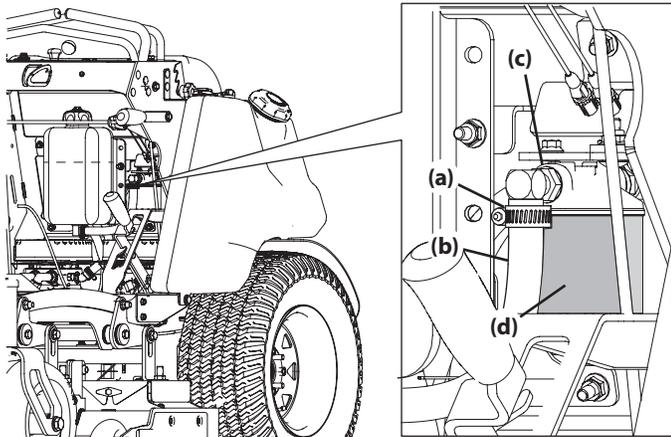

Figure 27
- Loosen the hose clamp (a) securing the transmission oil hose (b) to the transmission oil filter assembly (c) (Figure 27).